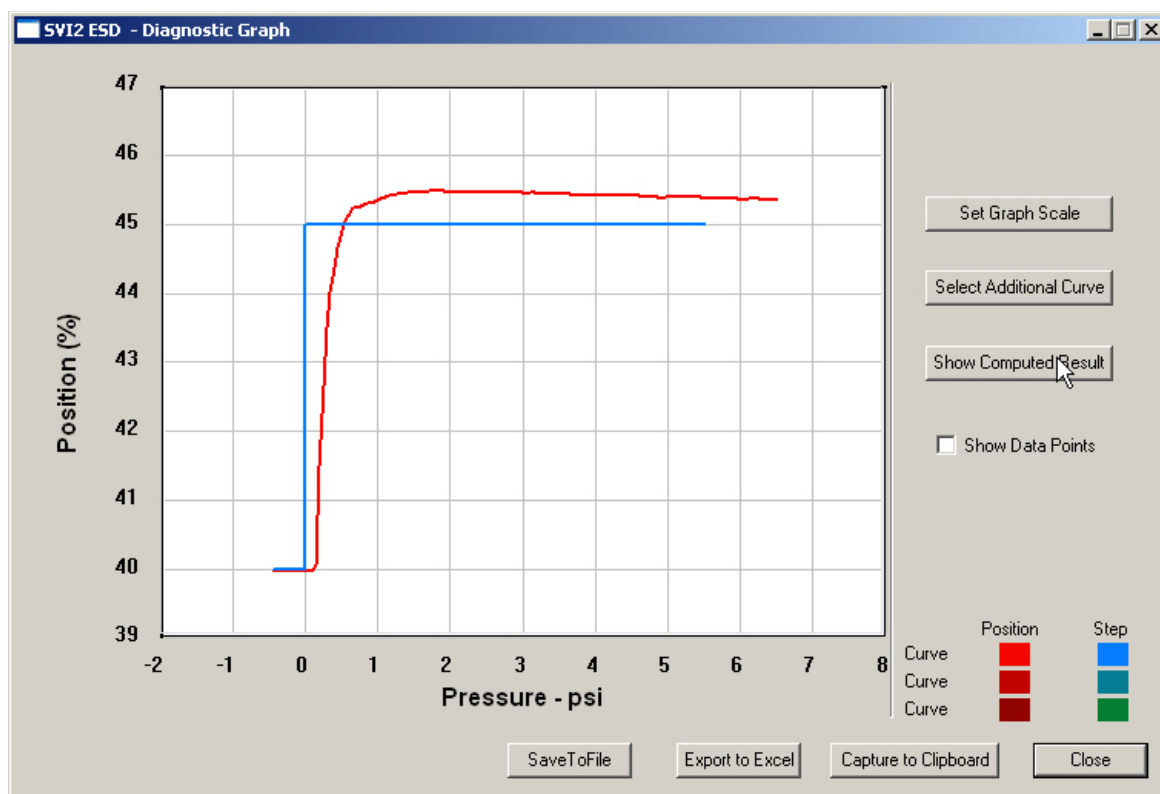

Figure 153 - Selecting Show Computed Result
1. Click **Show Computed Result** (*Figure 153*).